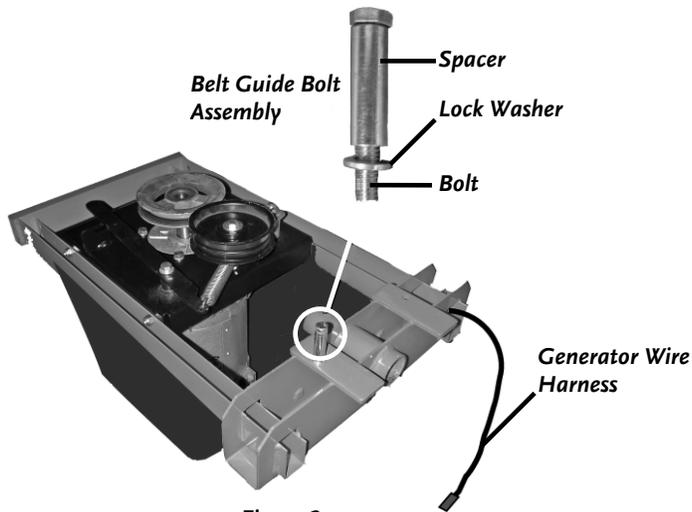

Figure 2
5. Assemble the Belt Guide (**Figure 2** on page 10) and install it on the Frame as shown. Tighten securely.
6. Route the Generator Wire Harness through the Frame and out the rear of the Generator as shown in **Figures 2** and **3** on page 10.